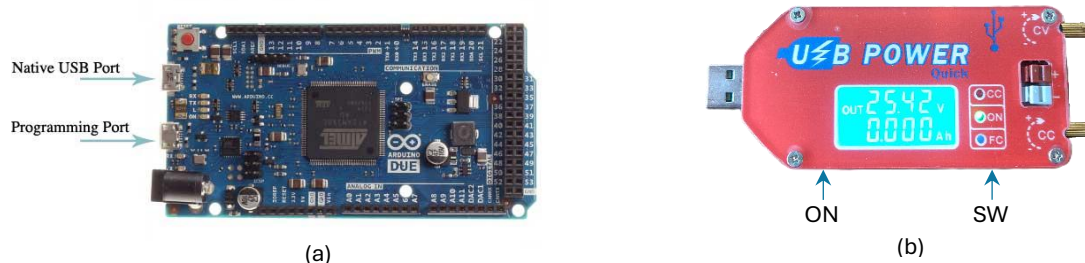

Figure 2 (a) USB ports of the Arduino Due board (source: <https://store.arduino.cc/products/arduino-due>), (b) correct display of the power supply.
- 2) Launch MATLAB. Plug the Arduino Due board to the host computer via its programming port (**Figure 2**). You should see the following message appear in the MATLAB terminal, confirming that the Arduino Board is correctly connected to the host PC: